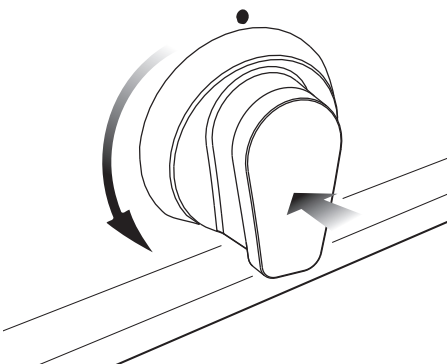

Fig. 2.2
1. Push and turn the knob in an anti-clockwise direction up to the **Hi**  position (maximum rate), push in and hold the knob until the flame has been lit (fig. 2.2).
2. Push and turn the knob in an anti-clockwise direction up to the **Hi**  position (maximum rate), push in and hold the knob until the flame has been lit (fig. 2.2).